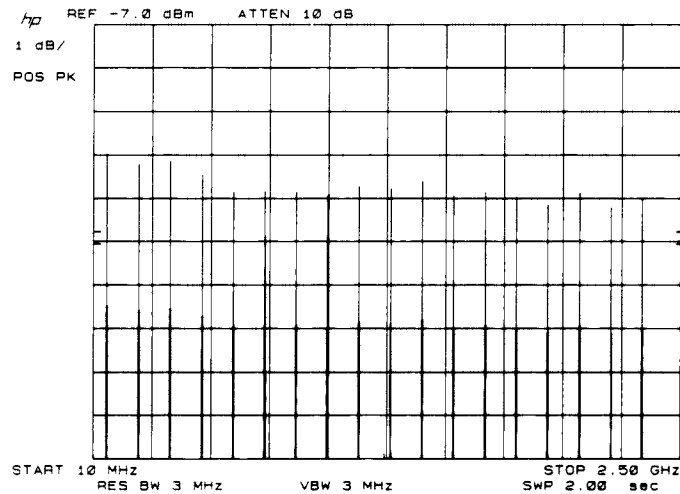

Figure 3-92.
34. On the spectrum analyzer, key in TRACE A (CLEAR-WRITE), (SWEEP TIME) 2s, MARKER (NORMAL) 500 MHz, (HOLD). As the spectrum analyzer completes each sweep, a series of approximately 18 new responses should be displayed, as shown in Figure 3-92. The peaks of these responses coarsely outline the spectrum analyzer frequency response.